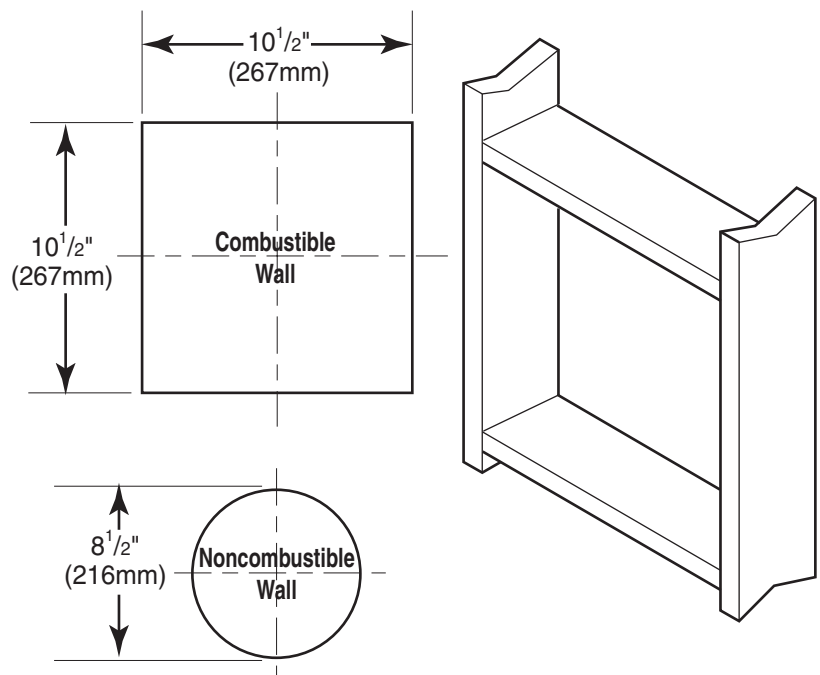

Figure 17 - Exterior Wall Framing Dimensions
Combustible Exterior Walls: Cut a 10 $\frac{1}{2}$ "H x 10 $\frac{1}{2}$ "W square hole through the exterior wall frame. See *Figure 17*.
4. The center of the hole should line up with the center line of the horizontal rigid vent pipe end. Allow $\frac{1}{4}$ " minimum rise per foot. See *Figure 17*.
Combustible Exterior Walls: Cut a 10¹/₂"H x 10¹/₂"W square hole through the exterior wall frame. See Figure 17.
1. Establish vent hole through the wall. *See Figure 17, page 18.*